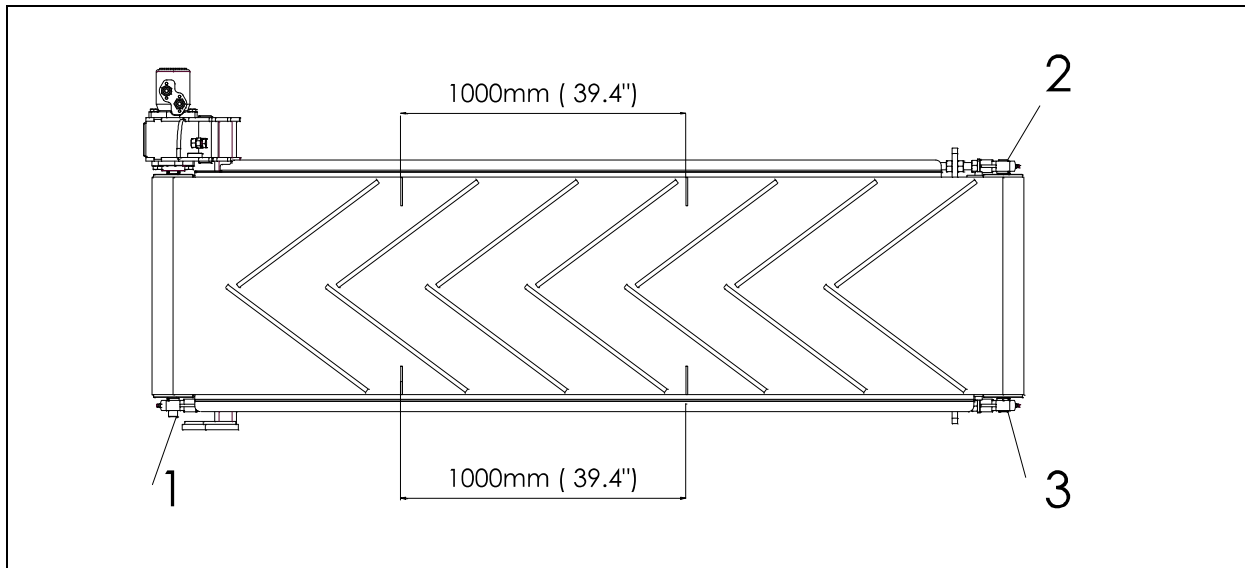

Figure 15
There are 8 rows on the rotor. Each row has 4 plates of which plate (1) is the extreme left one and plate (4) is the extreme right one, if you stand behind the machine (see Figure 15).